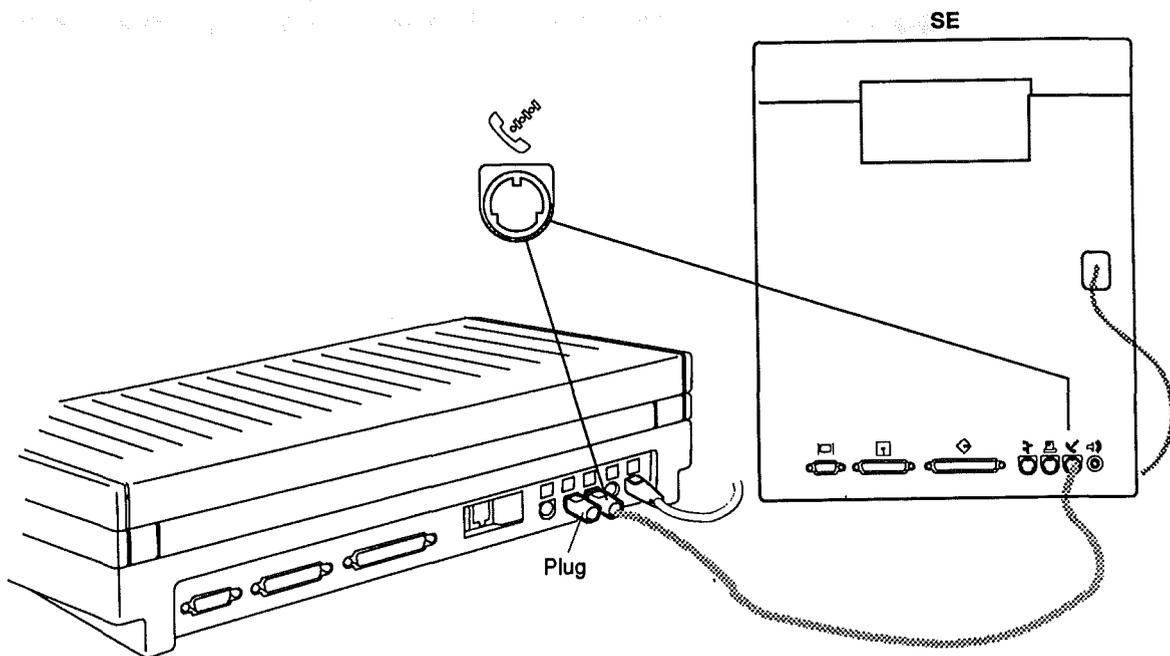

FIGURE 2
2. **Figure 2.** Plug in the power adapter and connect it to the Portable.
3. **Figure 2.** Connect one end of the serial interface cable to the modem port on the Portable to be tested (UUT).
4. **Figure 2.** Connect the other end of the serial interface cable to the modem port on the test station.